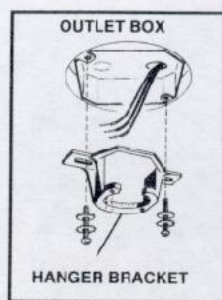

FIG. 6
**Step 1.** Secure the hanger bracket to the ceiling outlet box using screws, lock washers, and flat washers included with the fan. (Fig. 6) Note: Optional wood screws and spring washers are provided for mounting of hanger bracket directly to building structure.